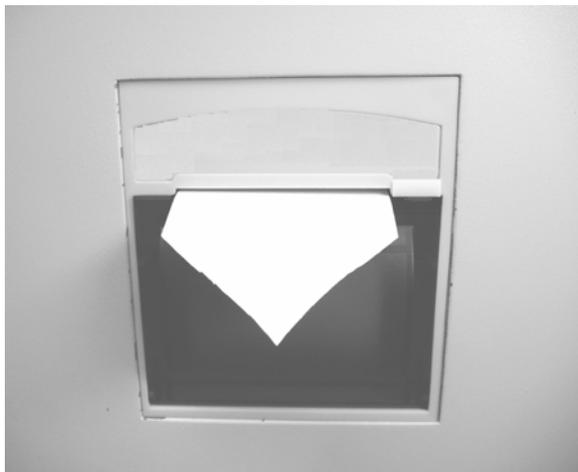

Figure 4-14
4. Close the recorder door, as Figure 4-14 shows;